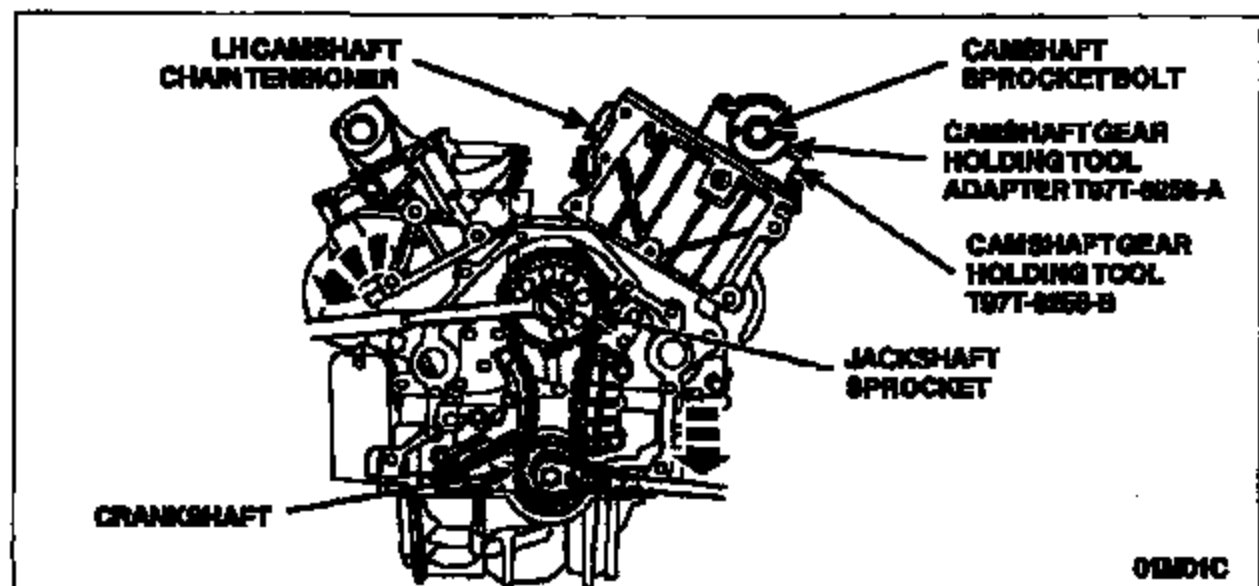

FIGURE 2
6. Remove the LH camshaft chain tensioner. See Figure 2.
9. Hold the crankshaft from turning with special tool 303-674 and loosen the jackshaft sprocket bolt. See Figure 2.